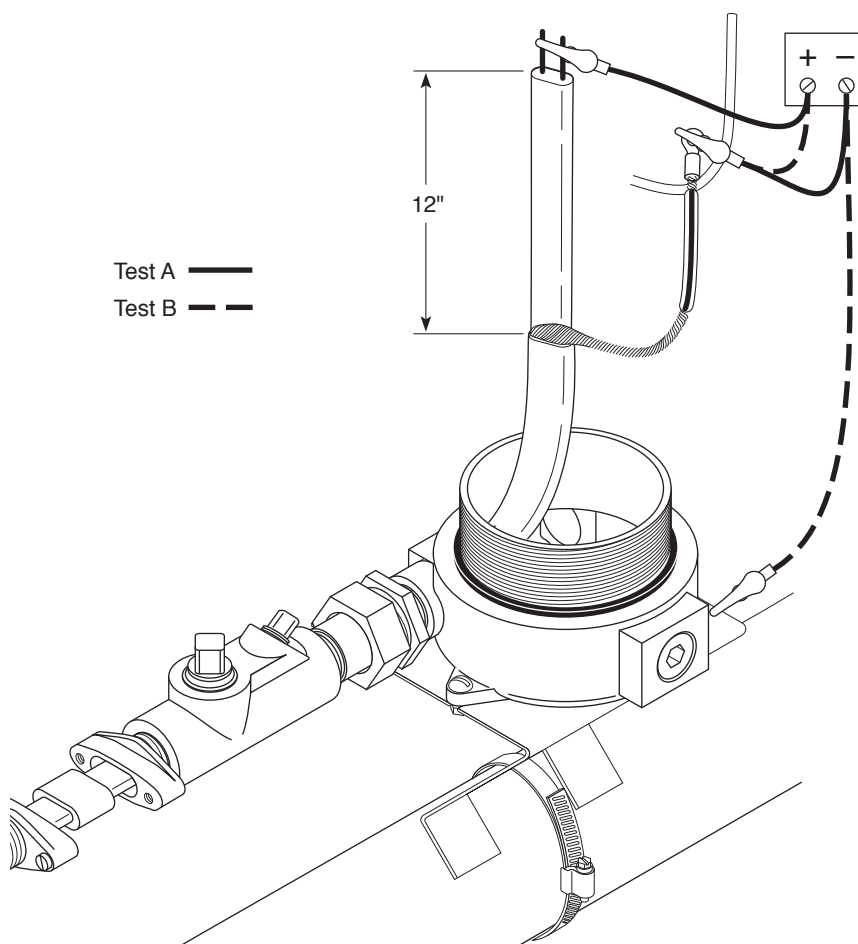

FIGURE 1. INSULATION RESISTANCE TEST
11. Following the test method outlined in Section 5.10.2 (and illustrated in Figure 1 of that section), perform an insulation resistance test on the heating cable. Record these readings in the "Insulation Resistance Testing" section of the FM Required Division 1 Installation Record, which is Appendix F of this manual.
Note: Make sure the insulation resistance testing is completed prior to pouring seals. Refer to Step 11 and Section 5.10.2, Figure 1.